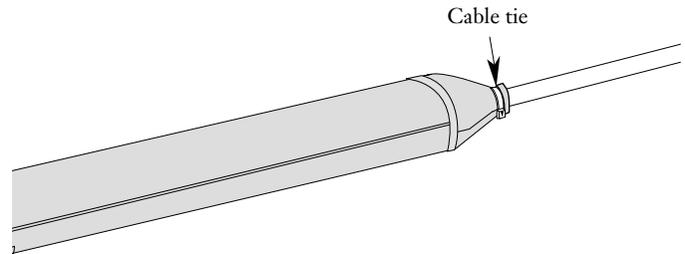

Figure 24
6.11 Apply an 8-inch cable tie around the grip in the groove on the cable-end of the grip and pull it tight. Clip off any excess length extending from the buckle (Figure 24).